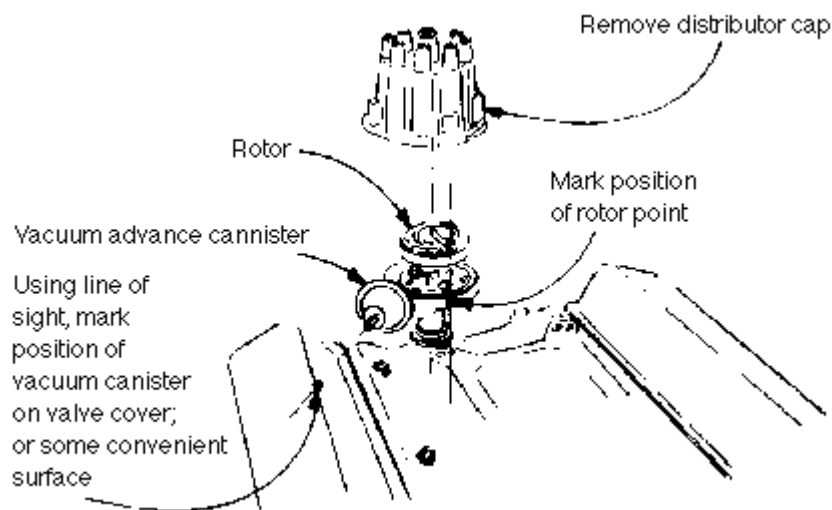

Figure 5
5. See Figure 5 for all details.
2. Install ignition with rotor pointing to your mark on the housing and the vacuum can lined up with your mark on the firewall or valve cover. See Figure 5.